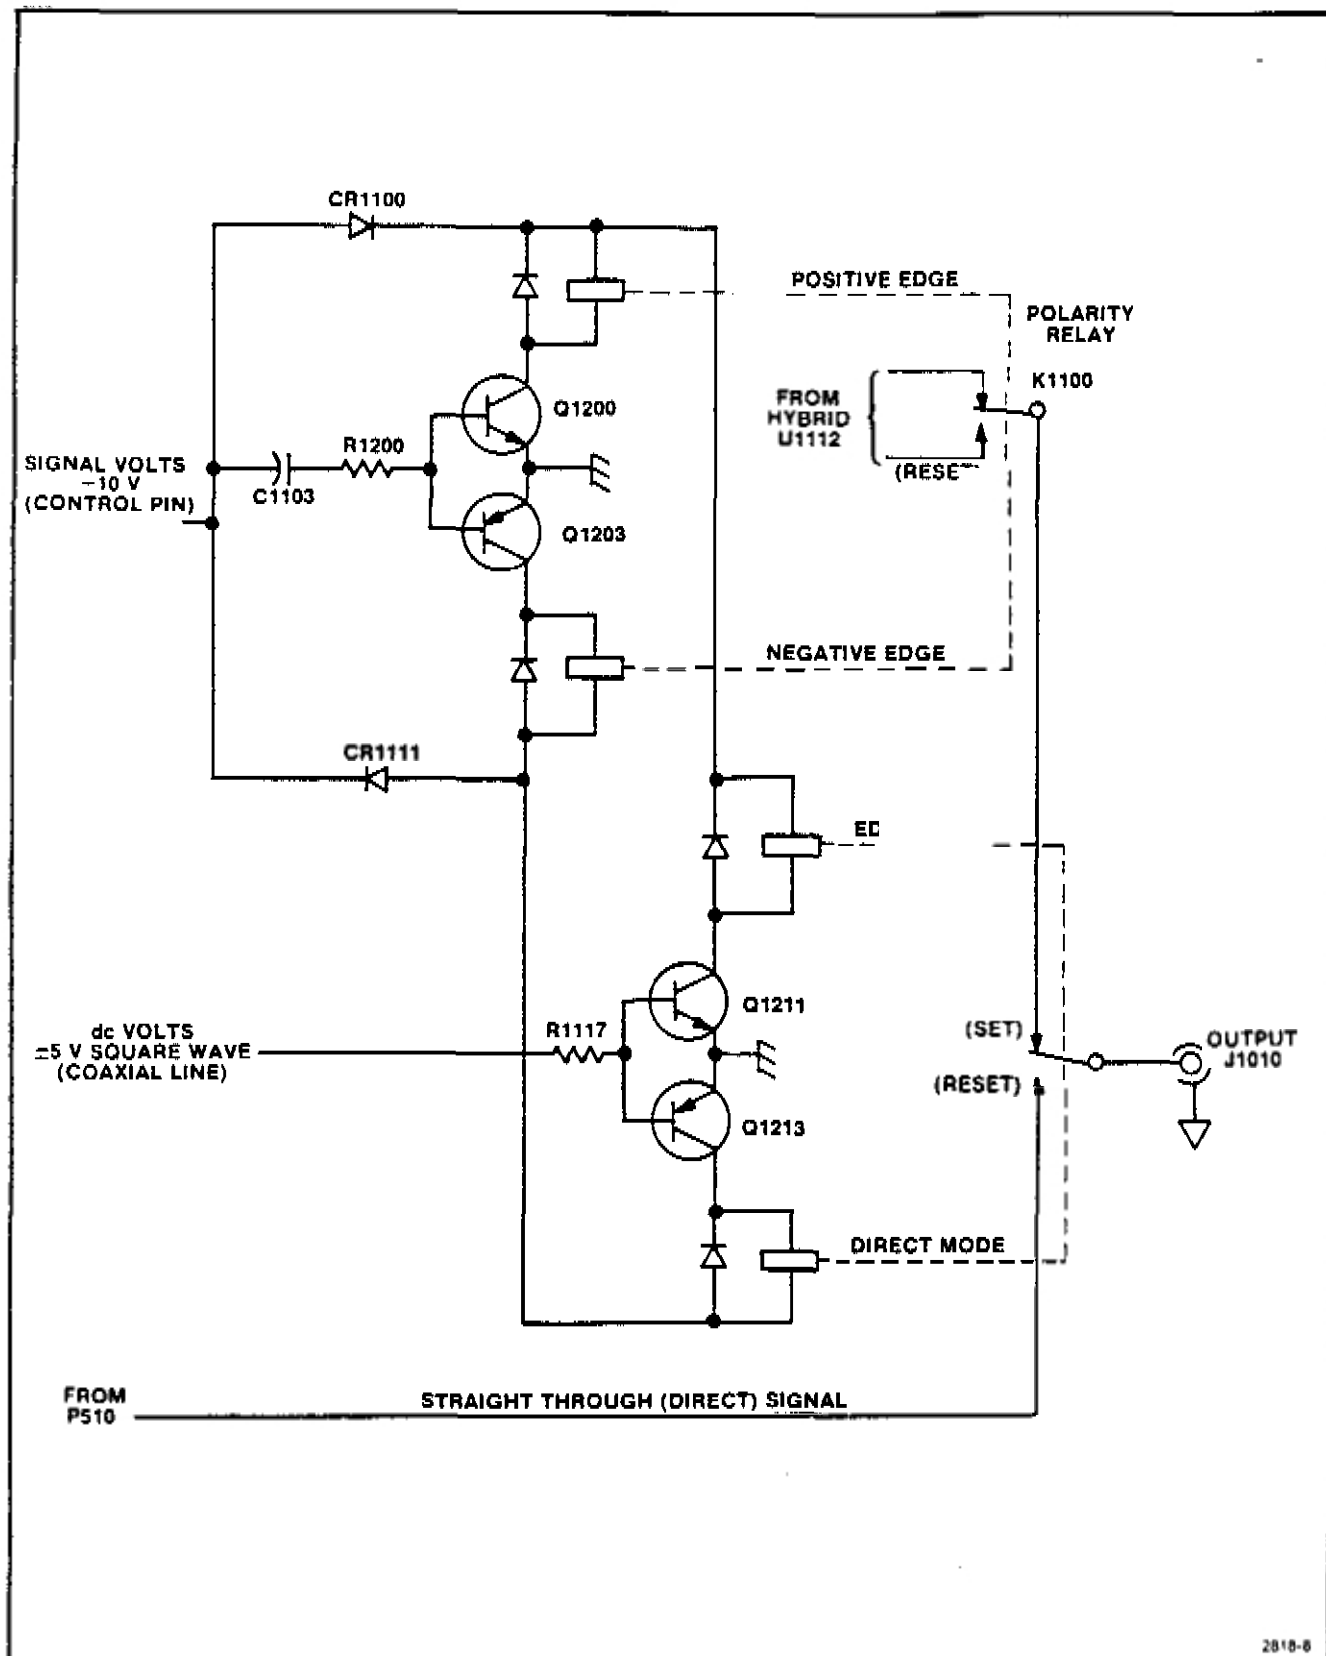
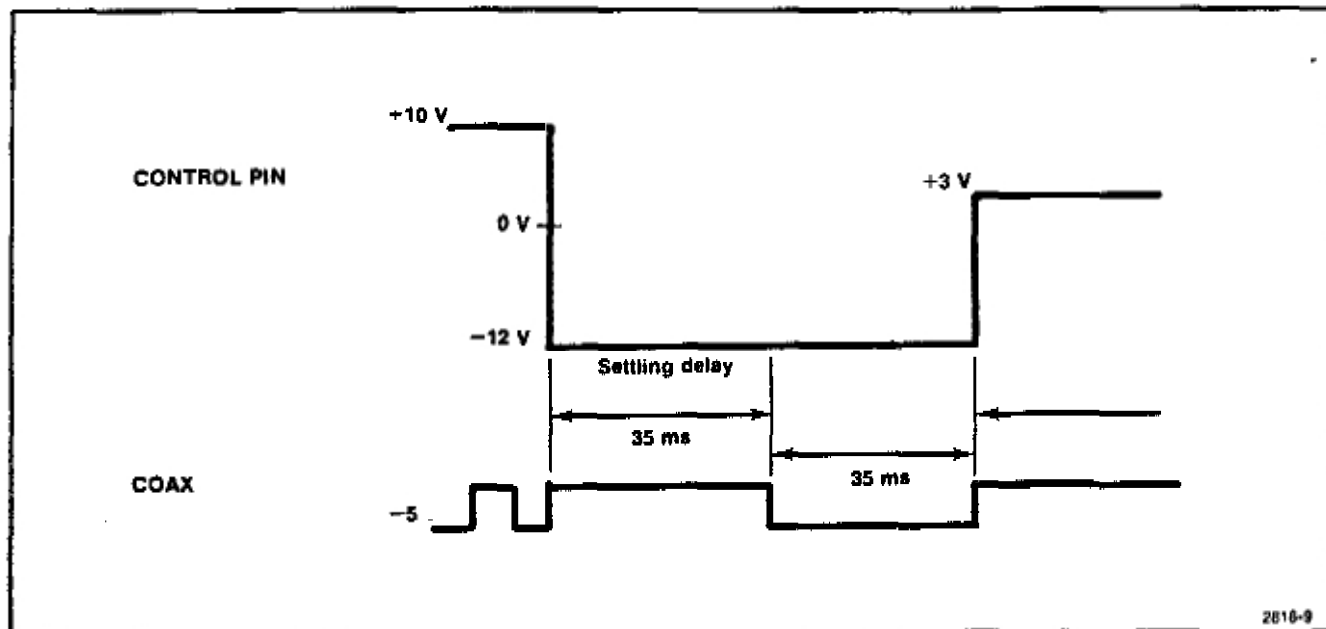
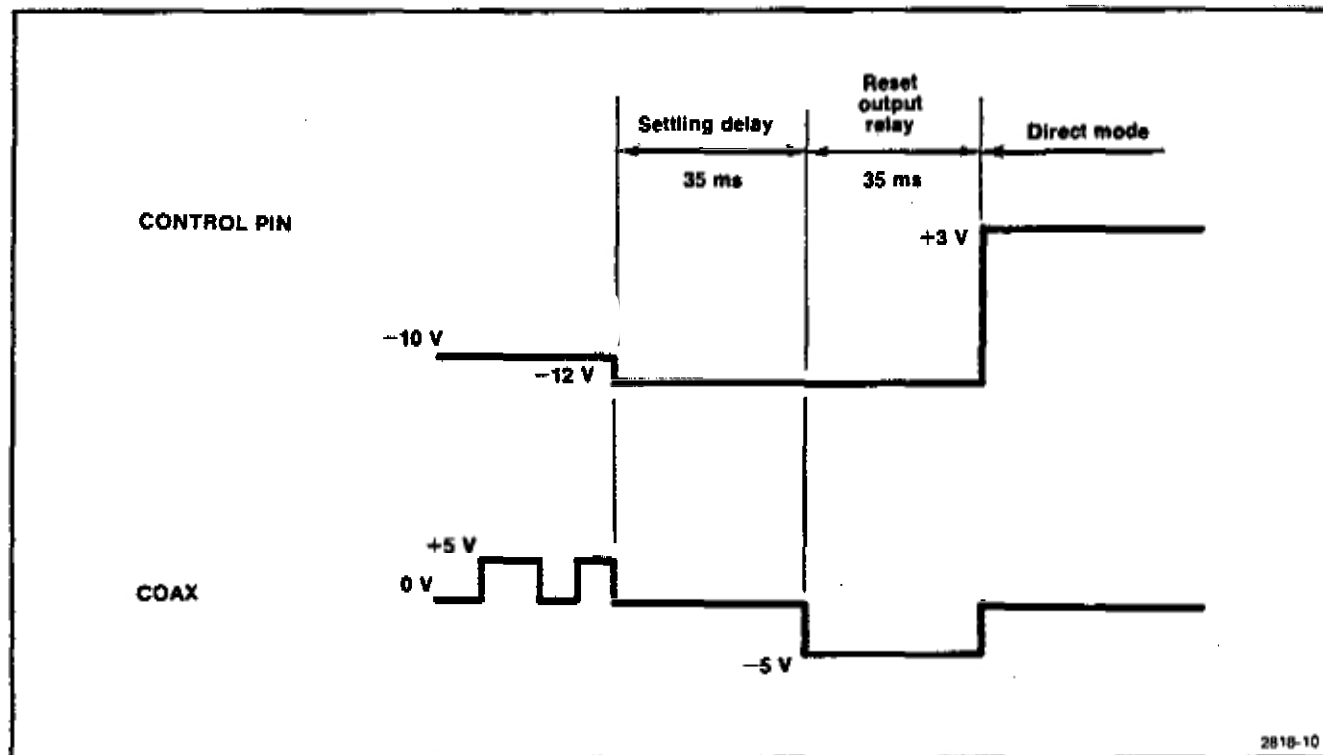

Fig. 3-6. Polarity and output relay switching.
Fig. 3-7. From POSITIVE FAST EDGE mode to direct mode.
Fig. 3-8. From NEGATIVE FAST EDGE mode to direct mode.
After entering the FAST EDGE mode, the CG5010/CG 5011 programs the control pin positive (+12 V). After 35 ms settling delay, the coaxial signal cable is programmed positive for another 35 ms. As the control pin draws current through R1202, (located on the Edge Driver board) K1210 closes. A positive voltage (+10 V) is applied through CR1100 to the collector of Q1200. This sets K1110 (see Fig. 3-6). Positive drive is also applied to Q1211 (also through CR1100), which
When the positive EDGE POLARITY pushbutton on the CG 5010/CG 5011 is pressed, the operation for the Pulse Head circuit requires the control pin to remain at +10 V and the coaxial line to supply a square wave that switches between ground and -5 V through R1117 (see Fig. 3-6). With these two lines carrying opposite polarity voltages, Q1211 remains off and no further switching of K1010 occurs. Q1200 is off. The time constant set by R1200 and C1103 (located on the Edge Driver board) in the base of Q1200 determines the length of time Q1200 is on. The +10 V is now applied through diode CR1100 as supply voltage for the positive fast-edge generator circuit. The CG 5010/CG 5011 has now changed the signal on the coaxial line from +5 V to a negative square wave (between ground and -5 V). The repetition rate is determined by the lighted FREQUENCY pushbutton on the CG 5010/CG 5011.
**Straight-Through (Direct) Mode.** When the CG 5010/CG 5011 is switched out of the fast edge mode, both the control pin and coaxial lines go negative. See waveforms in Fig. 3-7 and Fig. 3-8. This applies a negative voltage and negative base drive to Q1213 which switches K1010 to the reset (direct mode) position (see Fig. 3-6). Approximately  $10$  ms later, the CG 5010/CG 5011 shifts the control line to near  $0$  V which opens the input relay, K1210.